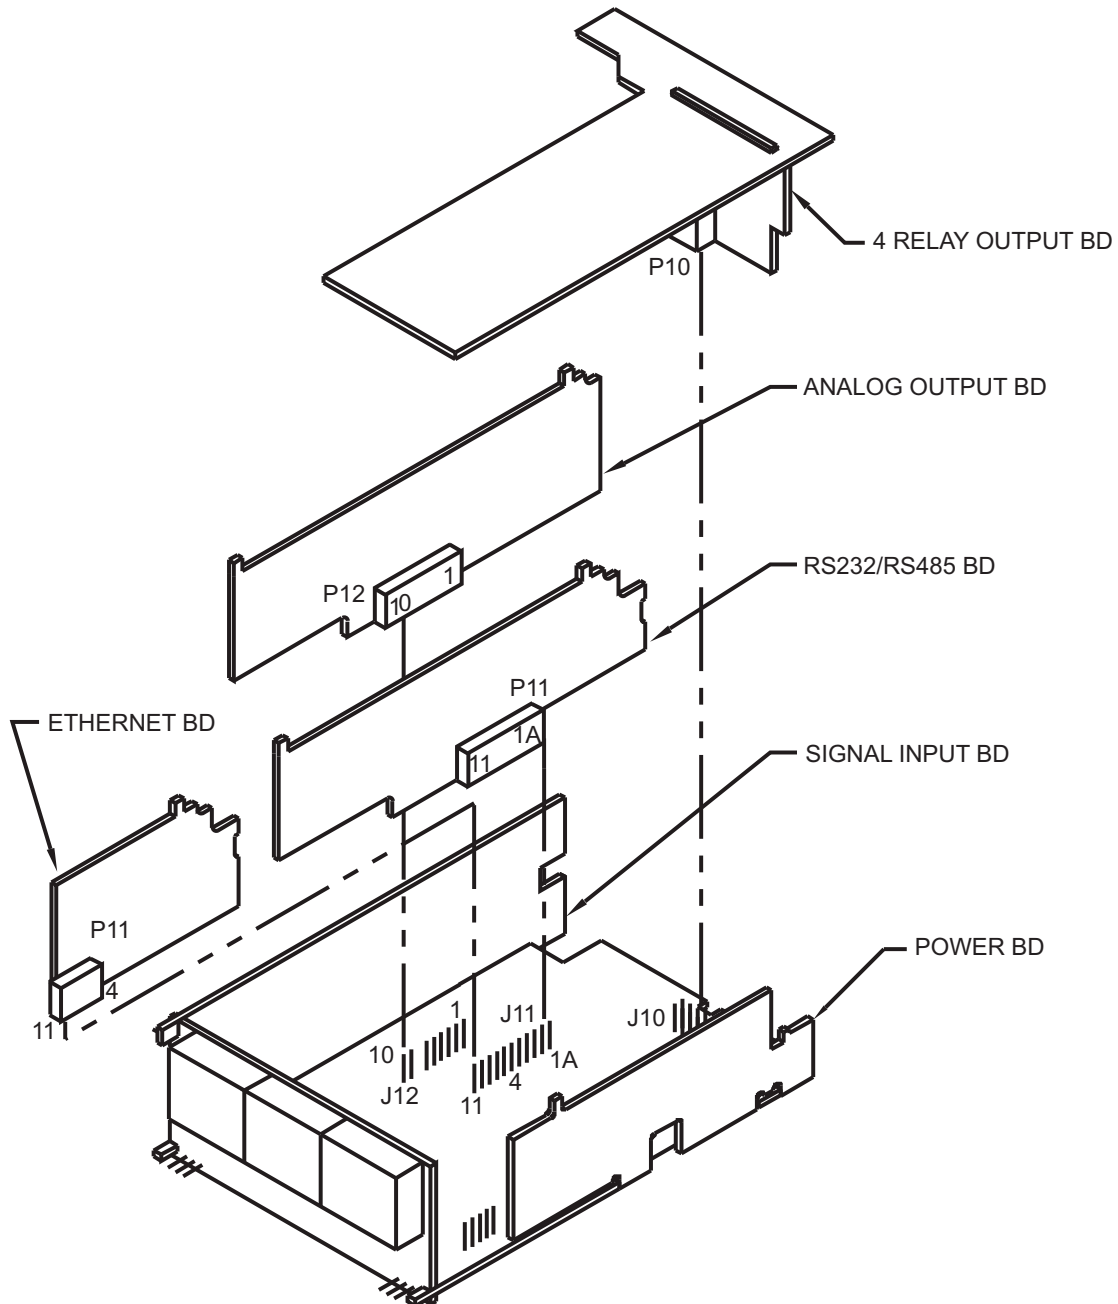

Figure 5-3. Optional Board Locations
2. Using **Figure 5-3** as a reference, insert option board(s) into the corresponding connector(s) on the main board. Each circuit board is keyed to fit in its own position.